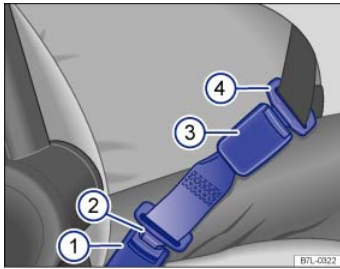

Fig. 60 A safety belt extender properly attached to the factory-installed safety belt.
Key to ⇒ Fig. 60 :
- Insert the buckle tongue on the safety belt extender ⇒ Fig. 60② into the vehicle belt buckle for the seat where the safety belt extender is being used ⇒ Fig. 60①.